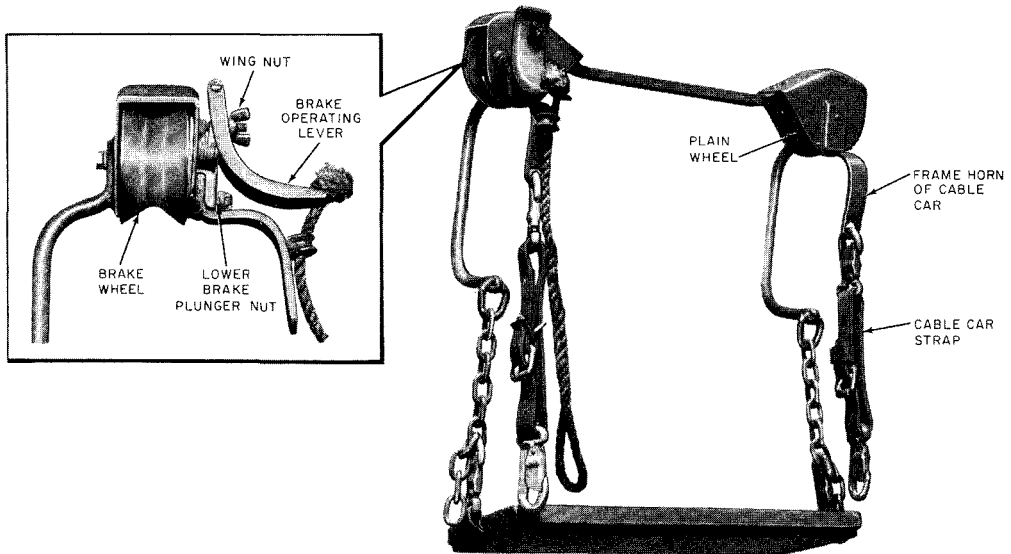

Fig. 1—Cable Car Straps on Cable Car Frame Horn
- 2.01 The Cable Car consists of a metal frame suspended from two trolley-type wheels, and equipped with safety straps and a suspended wooden seat which is adjustable in height (Fig. 1).
5.02 The lengths of the cable car straps are adjustable to suit the size of the rider and the nature of the work to be performed. One strap should be snapped to each frame horn of the cable car before leaving the ground (Fig. 1).